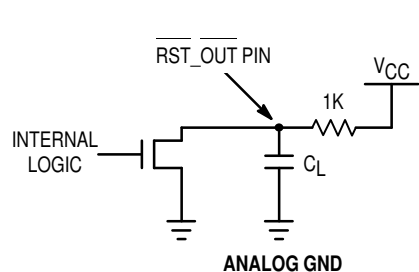

Figure 4. RST_OUT Test Circuit
- The $\overline{RST_OUT}$ pin is an open drain N-Channel output. Therefore an external pull-up resistor must be provided to pull up the $\overline{RST_OUT}$ pin when it goes into the high impedance state (after the MC88916 is phase-locked to the reference input with $\overline{RST_IN}$ held high or 1024 'Q' cycles after the $\overline{RST_IN}$ pin goes high when the part is locked). In the t_{PLZ} and t_{PZL} specifications, a 1K Ω resistor is used as a pull-up as shown in Figure 4.